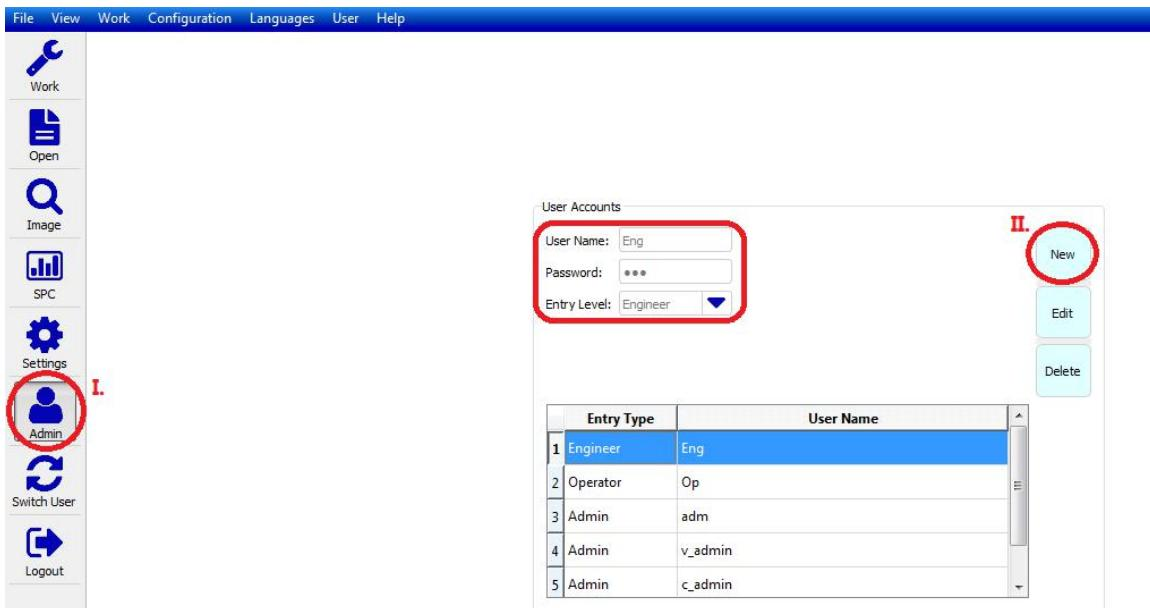

Figure 158: Add new user
- II. Click on **New** button then enter “user name” and “password”, refer to Figure 158.